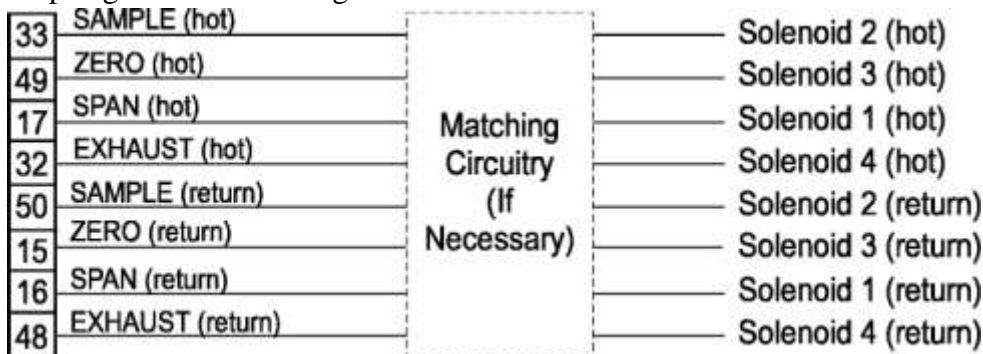

Figure 3-4: Remote Probe Connections
**Span:** Floating input. 5 to 24 V input across the + and – pins places the analyzer into the Span mode. Either side may be grounded at the source of the signal. 0 to 1 volt across the terminals allows Span mode to terminate when done. A synchronous signal must open and close external span valve appropriately. See Figure 3-4 Remote Probe Connector. (The –C option internal valves operate automatically.)
**Remote Valve Connections:** The 3000RS-T is a single-chassis instrument, which has no Remote Valve Unit. Instead, the Remote Valve connections are used as a method for directly controlling external sample/zero/span gas valves. See Figure 3-4.